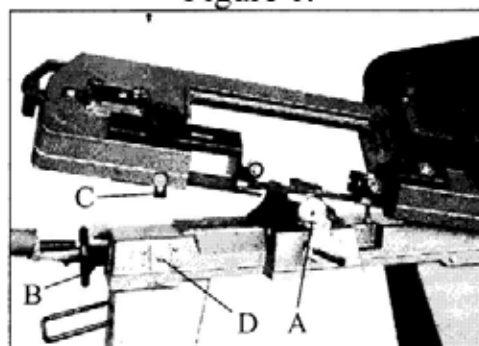

Figure 1.
Proper belt tension is obtained when there is approximately 1/4" deflection of the belt using light finger pressure at the center span of the pulleys. To adjust belt tension, loosen lock nut (A) (see figure 1) and turn adjusting screw (B) clockwise to increase tension and counter-clockwise to decrease tension. Tighten locknut (A) (see figure-1) after belt tension is obtained.
See Figure 1.